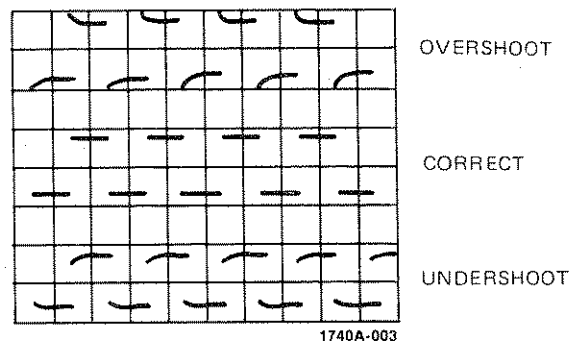

Figure 4. Probe Compensation
1. Connect the probe to be compensated to the appropriate vertical channel INPUT connector (21) and the CAL 1 V output (23).
2. Set VOLTS/DIV (18) to 0.1, MAIN TIME/DIV (34) to 0.2 mSEC, and input coupling (17) to DC.
3. Adjust the main TRIGGER LEVEL (35) for a stable display of the calibrator square-wave voltage. The display should have flat tops. Any distortion in the presentation is caused by incorrect probe compensation.
4. If overshoot or undershoot is present, turn the screwdriver adjustment in the probe for a flat-top presentation (see figure 4).